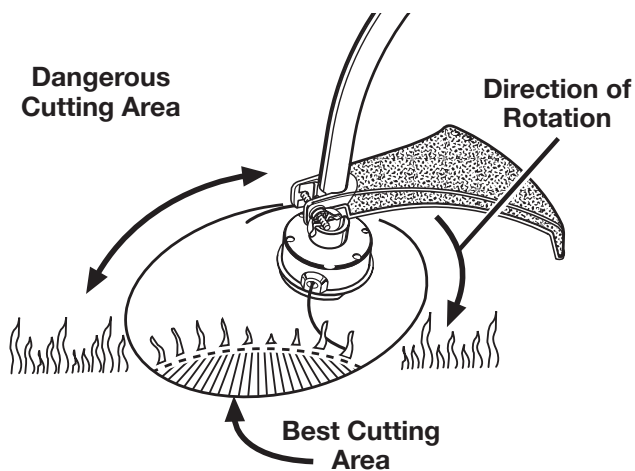

Figure 18
See Figures 18 and 19.
3. The curved shaft trimmer cuts when passing the unit from right to left. the straight shaft trimmer cuts when passing the unit from left to right. This will avoid throwing debris at the operator. Avoid cutting in the dangerous area shown in figures 18 and 19.